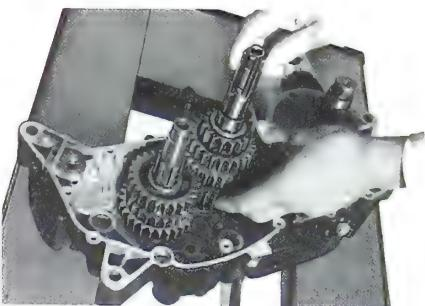

Fig. 5-3-2 Assembling countershaft
- 2) Fit the counter-shaft ass'y to the left crankcase. In this case never fail to attach the fifth drive gear spacer, between third and fifth drive gear. (Fig 5-3-2)